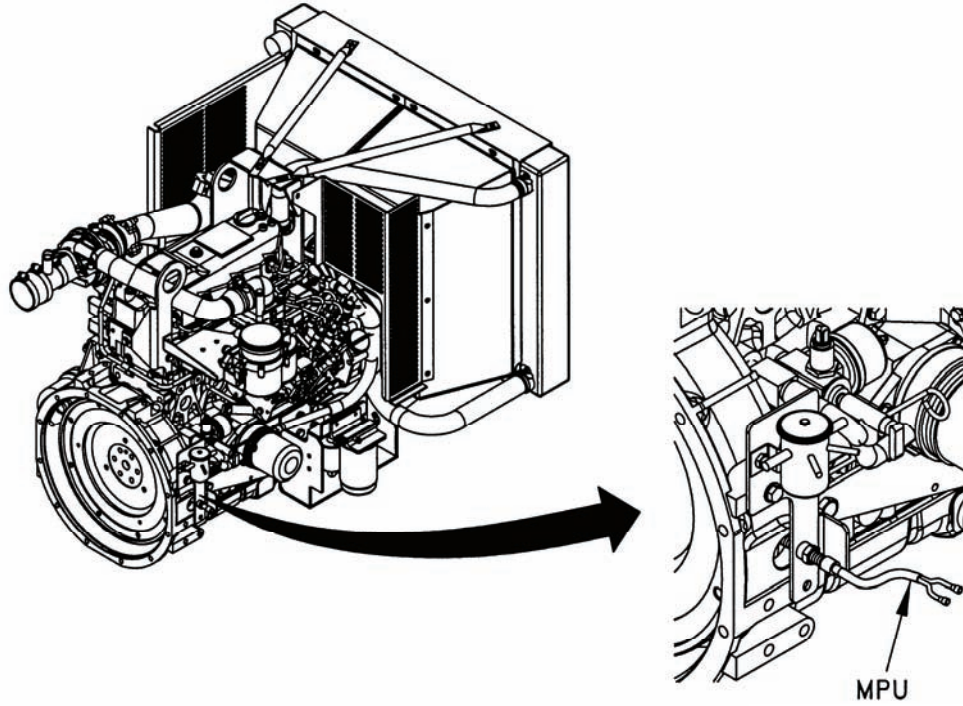

Figure 5-35. MPU Wire Harness.
- l. Connect wires 147B16 and 148B16 to magnetic pickup unit (MPU) (Figure 5-35). Polarity is not important.